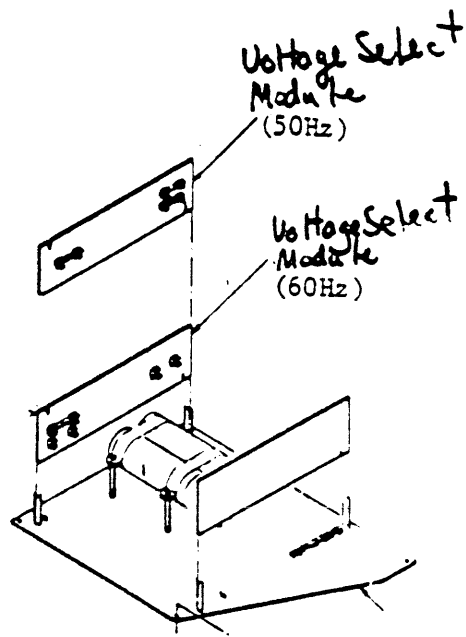

Figure 11 Voltage Select Module Orientation
- ___ 2. Check that the Voltage Select module (Figure 11) is installed in the correct position.